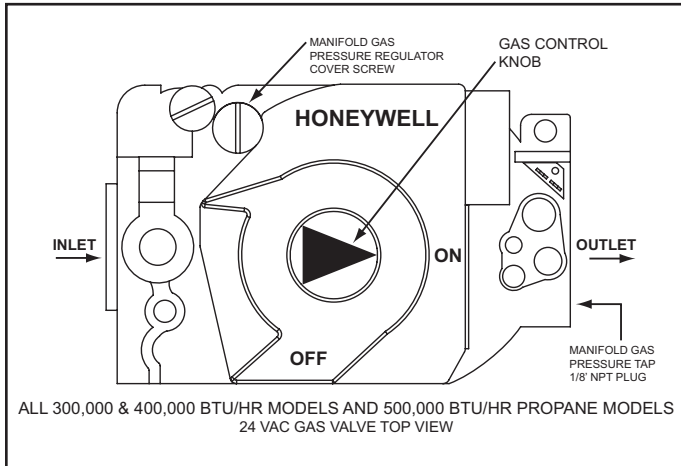
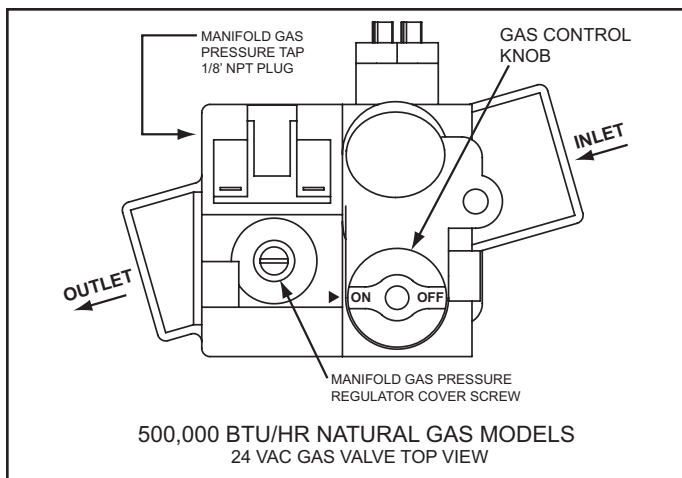

Figure 56
Figure 57
4. Push in the gas control knob slightly and turn to the "off" position, see Figure 56 and Figure 57 on pages 51 and 52.
5. Wait five (5) minutes for any residual gas to clear.
7. Connect one manometer (lower range) to the manifold gas pressure tap at the outlet of the 24 VAC Gas Valve, see Figure 56 on page 51 and Figure 57 on page 52 for location.
1. Push in the gas control knob slightly and turn to the "on" position, see Figure 56 and Figure 57 on pages 51 and 52.
- Remove the manifold gas pressure regulator cover screw, see Figure 56 on this page and Figure 57 on page 52.
3. Push in the gas control knob slightly and turn to the “off” position, see Figure 56 on page 51 and Figure 57 on this page.